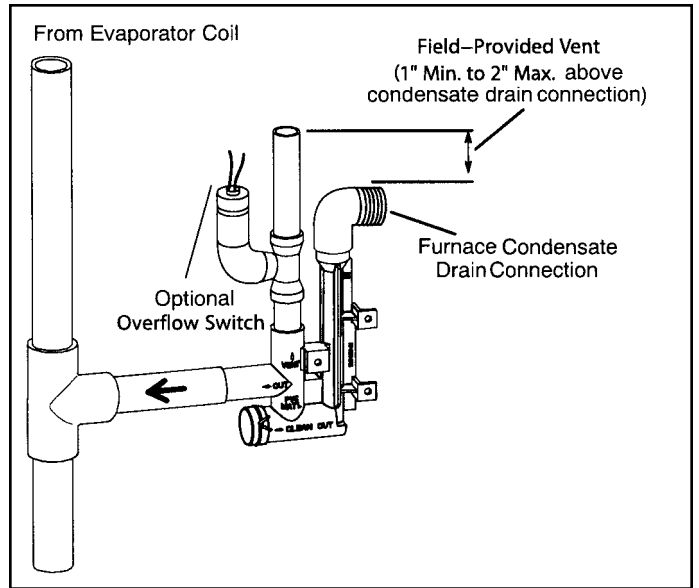

Figure 51. Condensate Trap with Optional Overflow Switch
3. Install the cap over the clean out opening at the base of the trap. Secure with clamp. See Figure 51.